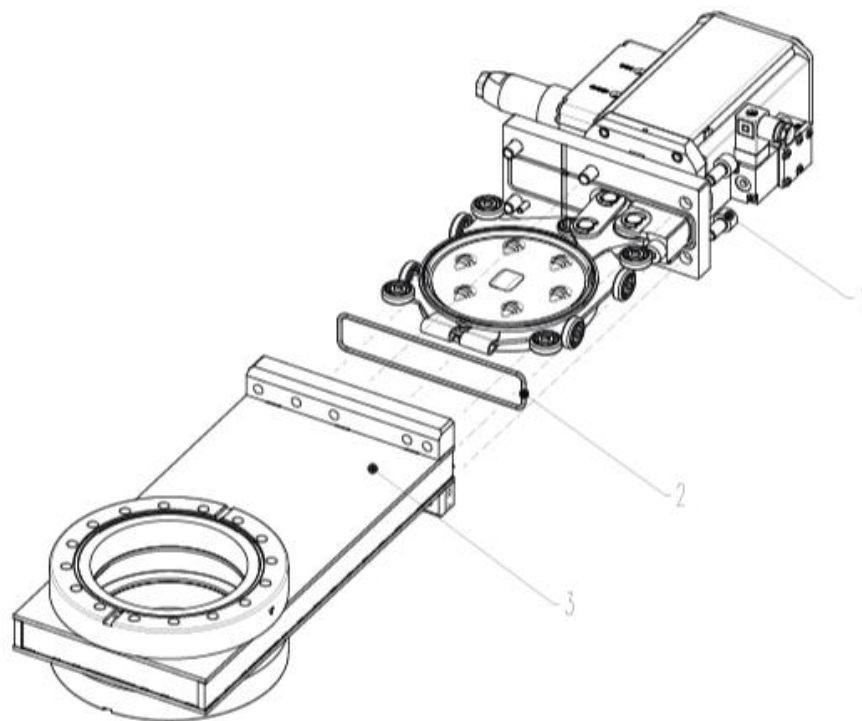

Figure 7-2
5. Remove screws (1) according to «Figure 7-2» on page 17.
6. Lift actuator / mechanism unit carefully from body without touching the body wall; see «Figure 7-2» on page 17. Use only the eyebolt threats; see dimensional drawing.
16. Mount screws (1) according to «Figure 7-2» on page 17.